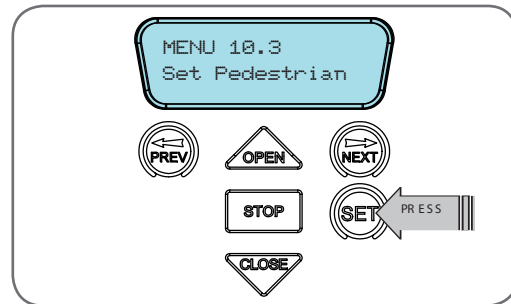

fig 48
5. Press SET on the wall control unit to save the Pedestrian Access position (**Fig. 48**).